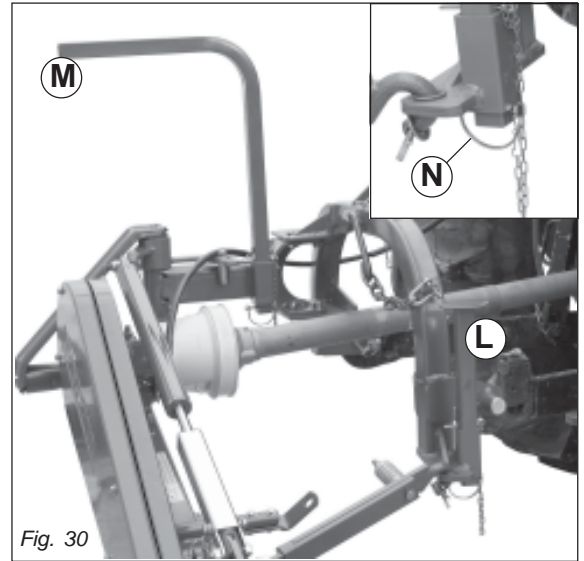

Fig. 30
- Remove the supports (L and M, Fig. 30) and remount them, upside-down in their seat. Install spring locking pin in order to secure parking stand (N).